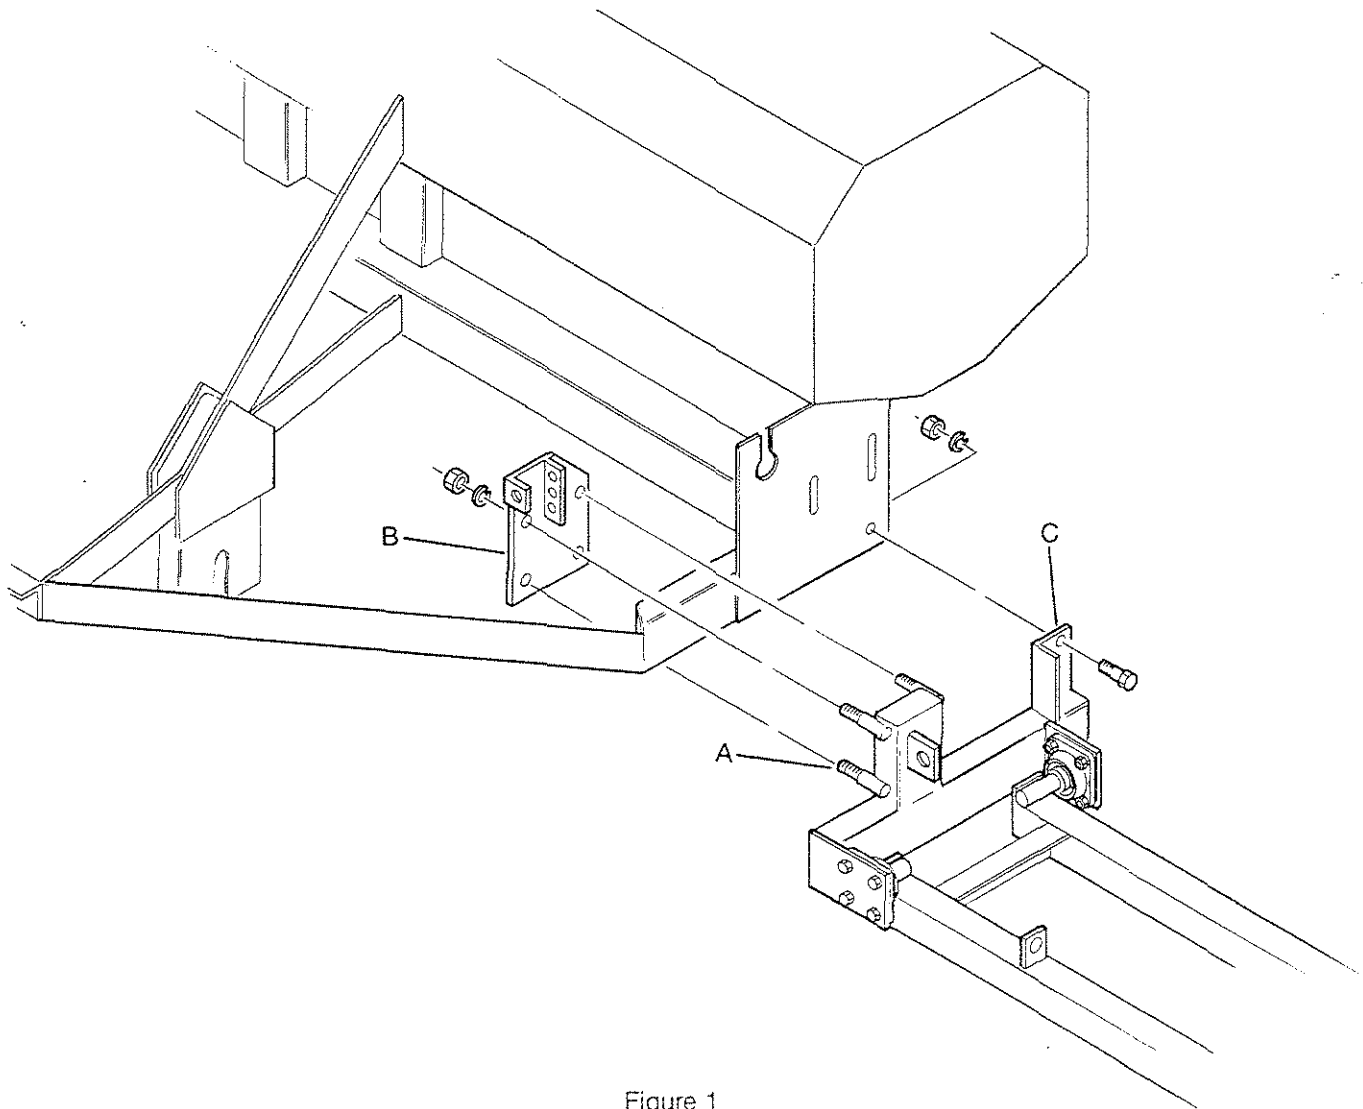

Figure 1
1. Support Marker horizontally at level of drill box. Attach Marker Main Mount (A) around horizontal 2" x 4" tube and slide into Mounting Plate (B). Hand tighten four  $\frac{3}{4}$ " lockwashers and hex nuts (see fig.1).
2. Align hole in Main Mount Angle (C) to rear hole in box End Plate and attach with a  $\frac{5}{8}$ " x  $1\frac{1}{2}$ " long bolt, lock-washer and hex nut (fig. 1). Secure all hex nuts.